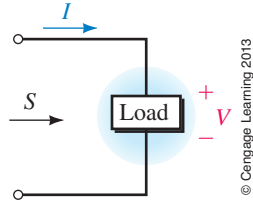

FIGURE 17-11 Apparent power $S = VI$.
When a load has voltage V across it and current I through it as in Figure 17-11, the power that appears to flow to it is VI . However, if the load contains both resistance and reactance, this product represents neither real power nor reactive power. Since VI appears to represent power, it is called **apparent power**. Apparent power is given the symbol S and has units of **volt-amperes (VA)**. Thus,